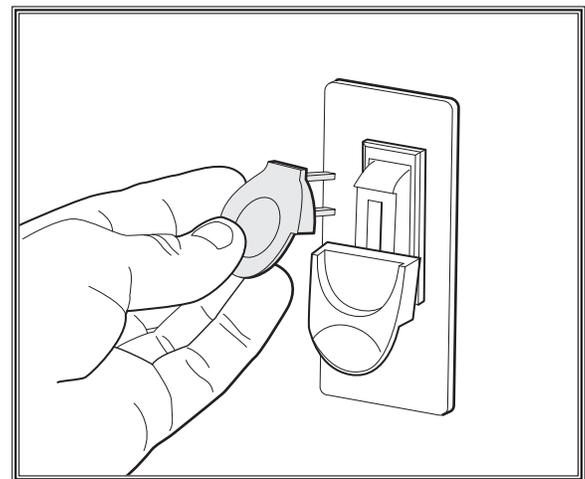

Figure 14. Removing switch key from paddle switch.
4. Remove switch disabling key (see **Figure 14**).